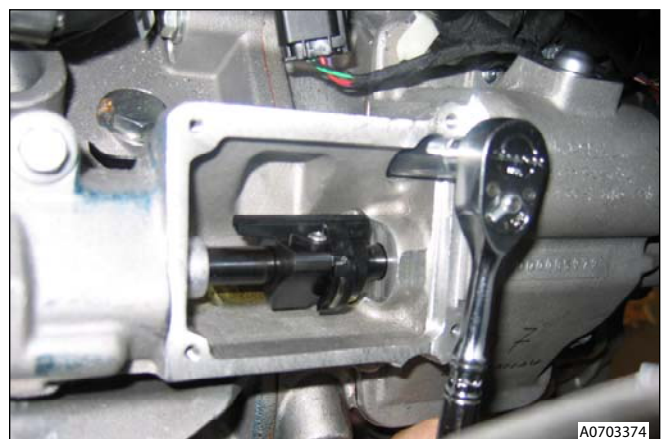

Figure 9
34. Remove shifter unit (bolts x6, nut x1) and release from dowels (x2) (see Figure 9).